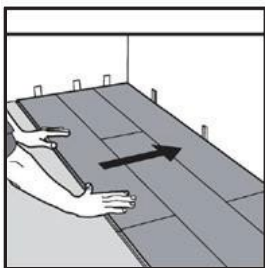

FIGURE 8
2. It may be necessary to rip the last row to allow for the minimum 1/4" expansion. If the last row is 2" or less click the pieces to the last full uninstalled row and install them together. If needed use a light rubber mallet to make the remaining rows tight to the installed planks (Figure 8–9).